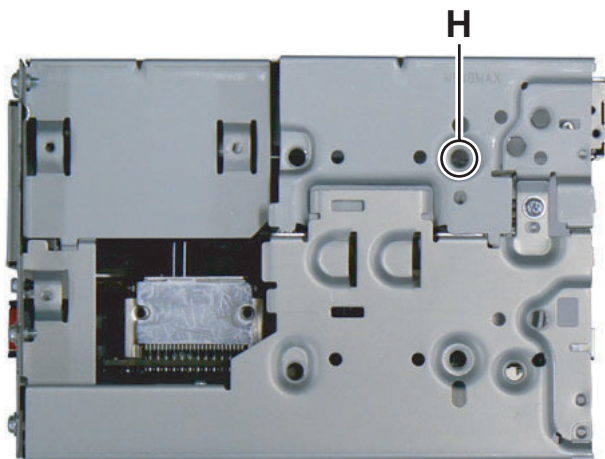

Fig.7
(3) Remove the one screw **H** attaching the Top chassis. (See Fig.7)